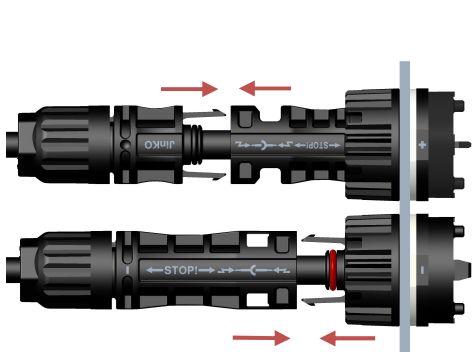
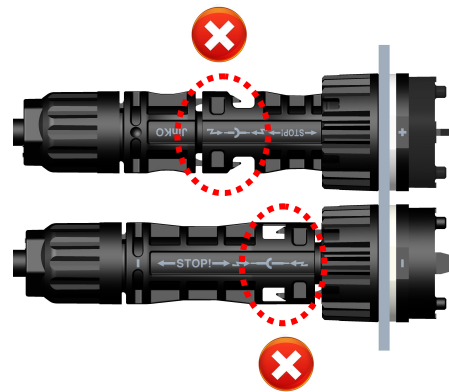

Figure 4
Figure 6
- ✧ 公母连接器插合：将公/母电缆连接器插入母/公面板连接器，直至其啮合。轻轻拉动，以检查是否啮合牢固（如图 4&5）。同时检查公母连接器有无对配不到位现象（如图 6）。
Insert the Male/ female cable connector into the female/ male panel connector until they engaged. And pull lightly to check correct engagement (Fig. 4&5). At the same time, check whether the male and female connectors are in place or not (Figure 6).